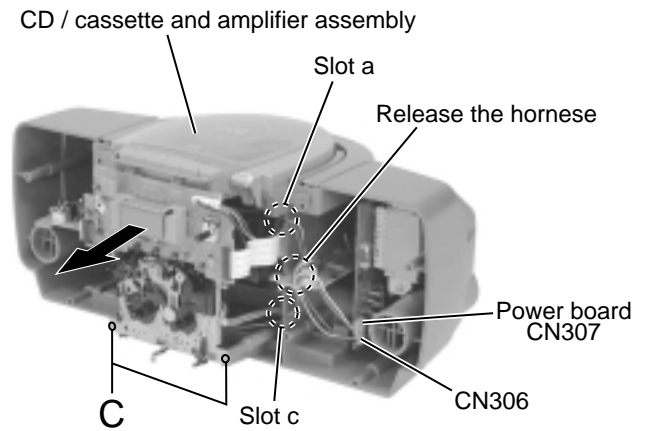

Fig.7
■ Removing the CD / cassette and amplifier assembly from the rear cabinet (See Fig.7 and 8)